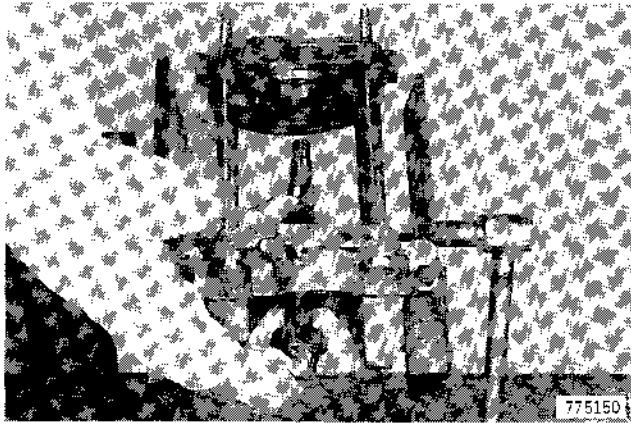

Figure 157
2. Install pinion shaft in housing, Figure 157.